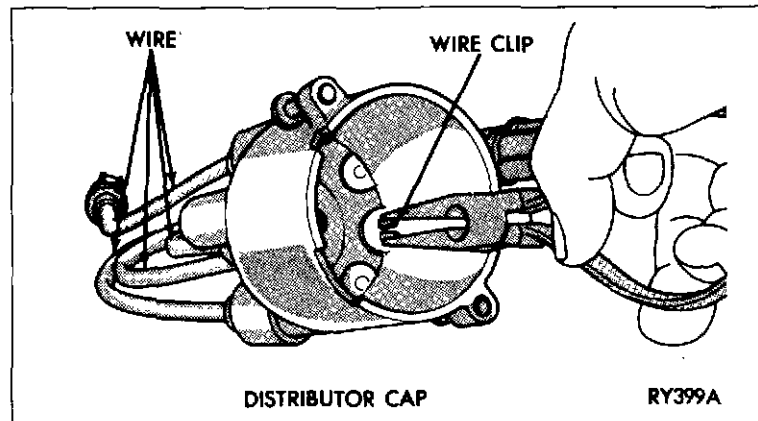

Fig. 18—Removing Spark Plug Wires
1. Connect a suitable power timing lamp (Fig. 18) to number one cylinder (refer to the equipment manufacturer's instructions for the correct connecting procedure), or a suitable magnetic timing unit (use a 10° offset when required).